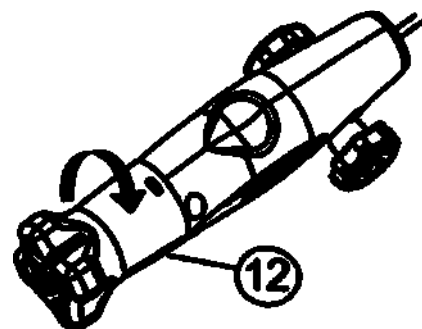

Figure 4 (item 12)
9. Remove PATHFINDER instrument prior to inserting SPEEDLOCK implant (figure 4).
11. Confirm alignment of the implant such that the slot on the plug guide (Item 8) orients the suture towards the tissue (figure 4). If not aligned, reposition prior to implant insertion into the drilled hole. Insert/drive the implant into the drilled hole to the laser line on the plug guide. Note: Check that the entire length of the suture is visible, from the tissue to the implant. Do not split the sutures with the implant.